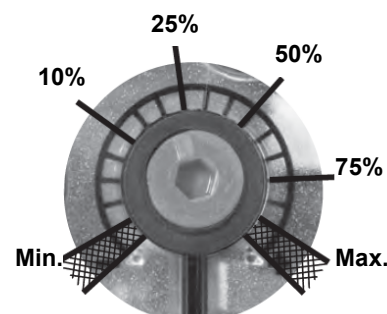

Fig. 2
1. Position VD on VB, fig. 2+3.